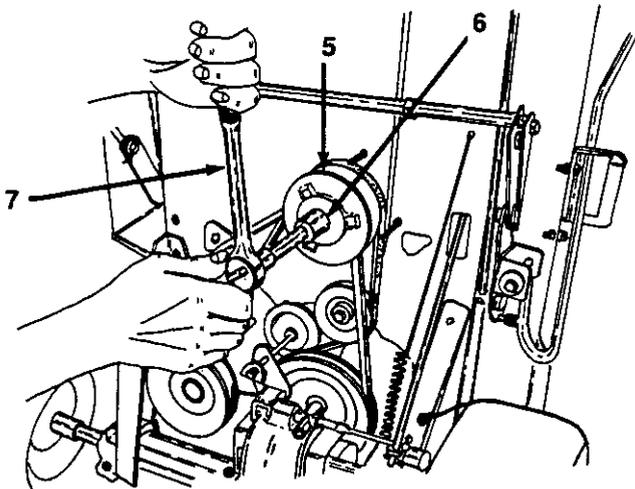

FIGURE 3.
4. With a $\frac{3}{4}$ " socket head wrench, remove the hex bolt holding the variable speed pulley. See figure 3.